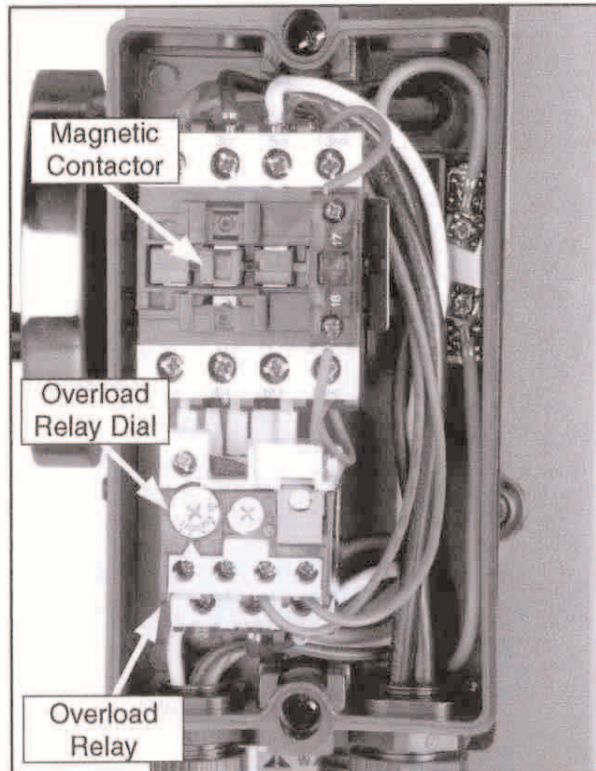

**Figure 8.** Motor location.
3. Remove the motor junction box cover (see **Figure 8**).